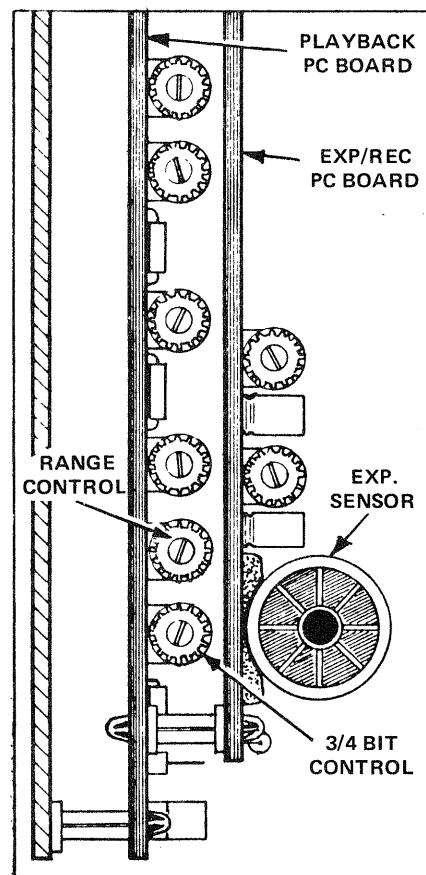

FIGURE 9-4 3/4 Bit and Range Control locations.
3. Push the (10) PLAY Pushbutton to start the tape. As Program 1 plays, adjust the 3/4 Bit Control (screw-driver adjustment - see FIGURE 9-4) by turning it SLIGHTLY clockwise or counterclockwise until the (15) FINE TUNING Lamp goes OUT. If the Lamp does NOT go out, turn the Range Control SLIGHTLY clockwise or counterclockwise until it does. See the NOTE below.
4. Turn the (4) TEMPO Control on the Recorder through its ENTIRE range from S (slow) to F (fast) and observe the (15) FINE TUNING Lamp. If the Lamp lights or flashes in the range of the (4) TEMPO Control, leave the Control at the setting at which the Lamp is lit or flashes and adjust the Range Control (see FIGURE 9-4 above) SLIGHTLY clockwise or counterclockwise until the (15) FINE TUNING Lamp goes OUT. If the Lamp does not go out when the Range Control is adjusted, rotate the 3/4 Bit Control SLIGHTLY clockwise or counterclockwise until it does. See the NOTE above.